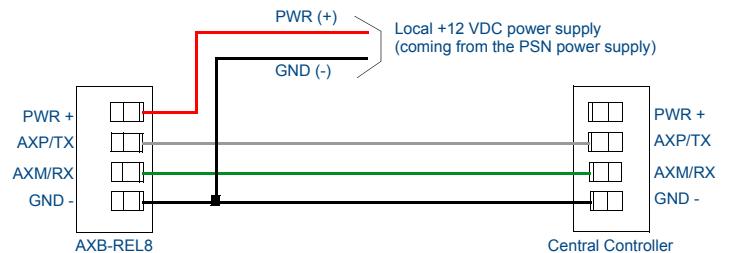

FIG. 4 Wiring AxLink with Optional 12 VDC power supply
Connect the control system's AxLink connector to the AxLink connector on the rear panel of the AXB-REL8 as shown in FIG. 4.
- Do not connect the optional +12 VDC power supply wire to the control system's power supply side of the AxLink connector (FIG. 4).